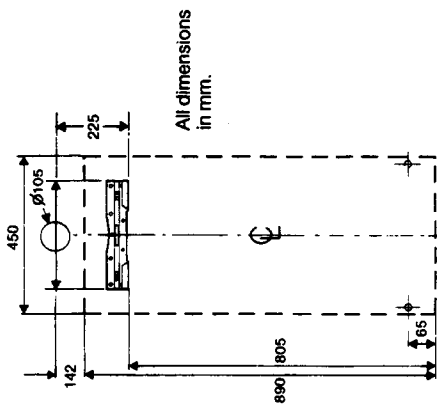

Fig. 13
**5.4 Mounting the Appliance (Fig 13)**
Alternatively, position bracket and holes to dimensions in fig 13.
Refer to fig. 13 and figs. 14-18 for relevant dimensions for locating the hole. Where it is remote from the boiler take special care to ensure hole is at the correct level so that the finished flue is horizontal.